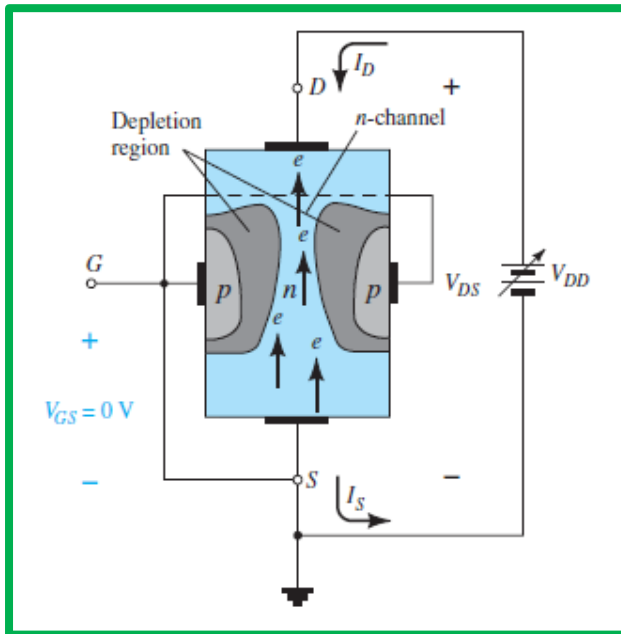

Figure 6.4: JFET at $V_{GS} = 0 \text{ V}$ and $V_{DS} > 0 \text{ V}$.
- In Fig. 6.4, a positive voltage V is applied across the channel and the gate is connected directly to the source to establish the condition $V_{GS} = 0 \text{ V}$.